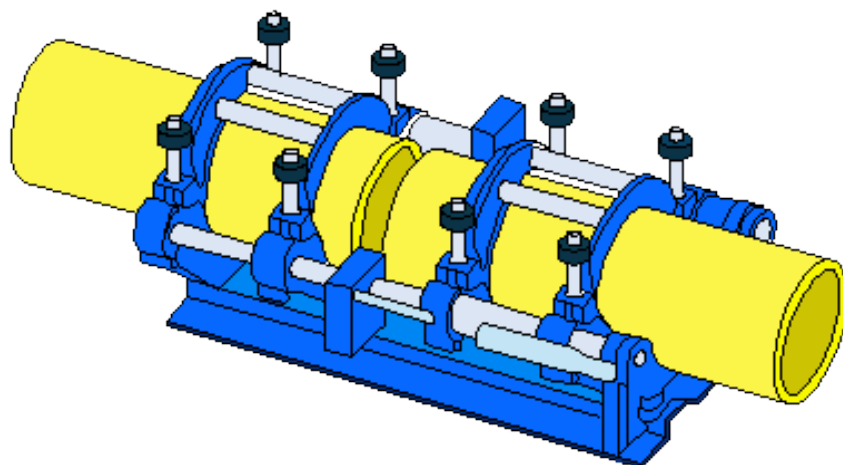

Figure E.1 – Butt Fusion Machine
1. After completing the checks the machine is suitable for use the machine and its component parts may be connected together, Figure E.1
19. Clamp the pipe in place. Figure E.1